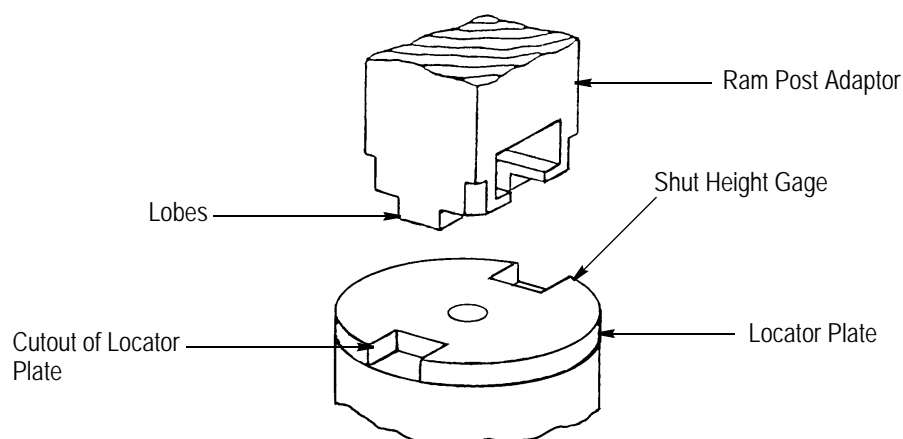

Figure 14
4. Using a 19-mm wrench, rotate the pulley (located at the rear of the terminating machine) to manually cycle the machine until the ram post adaptor is positioned just above the locator plate of the shut height gage. Align the locator plate so that the cutout areas are aligned with the lobes on the ram post adaptor. See Figure 14.